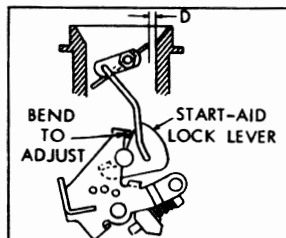

FIGURE 5
a. Figure 5. Hold choke valve closed lightly, then open throttle to wide-open position. The distance "D" between choke valve and air horn wall should be as listed in table. To adjust, bend ear on throttle lever as shown.
UNLOADER ADJ. Fig.5